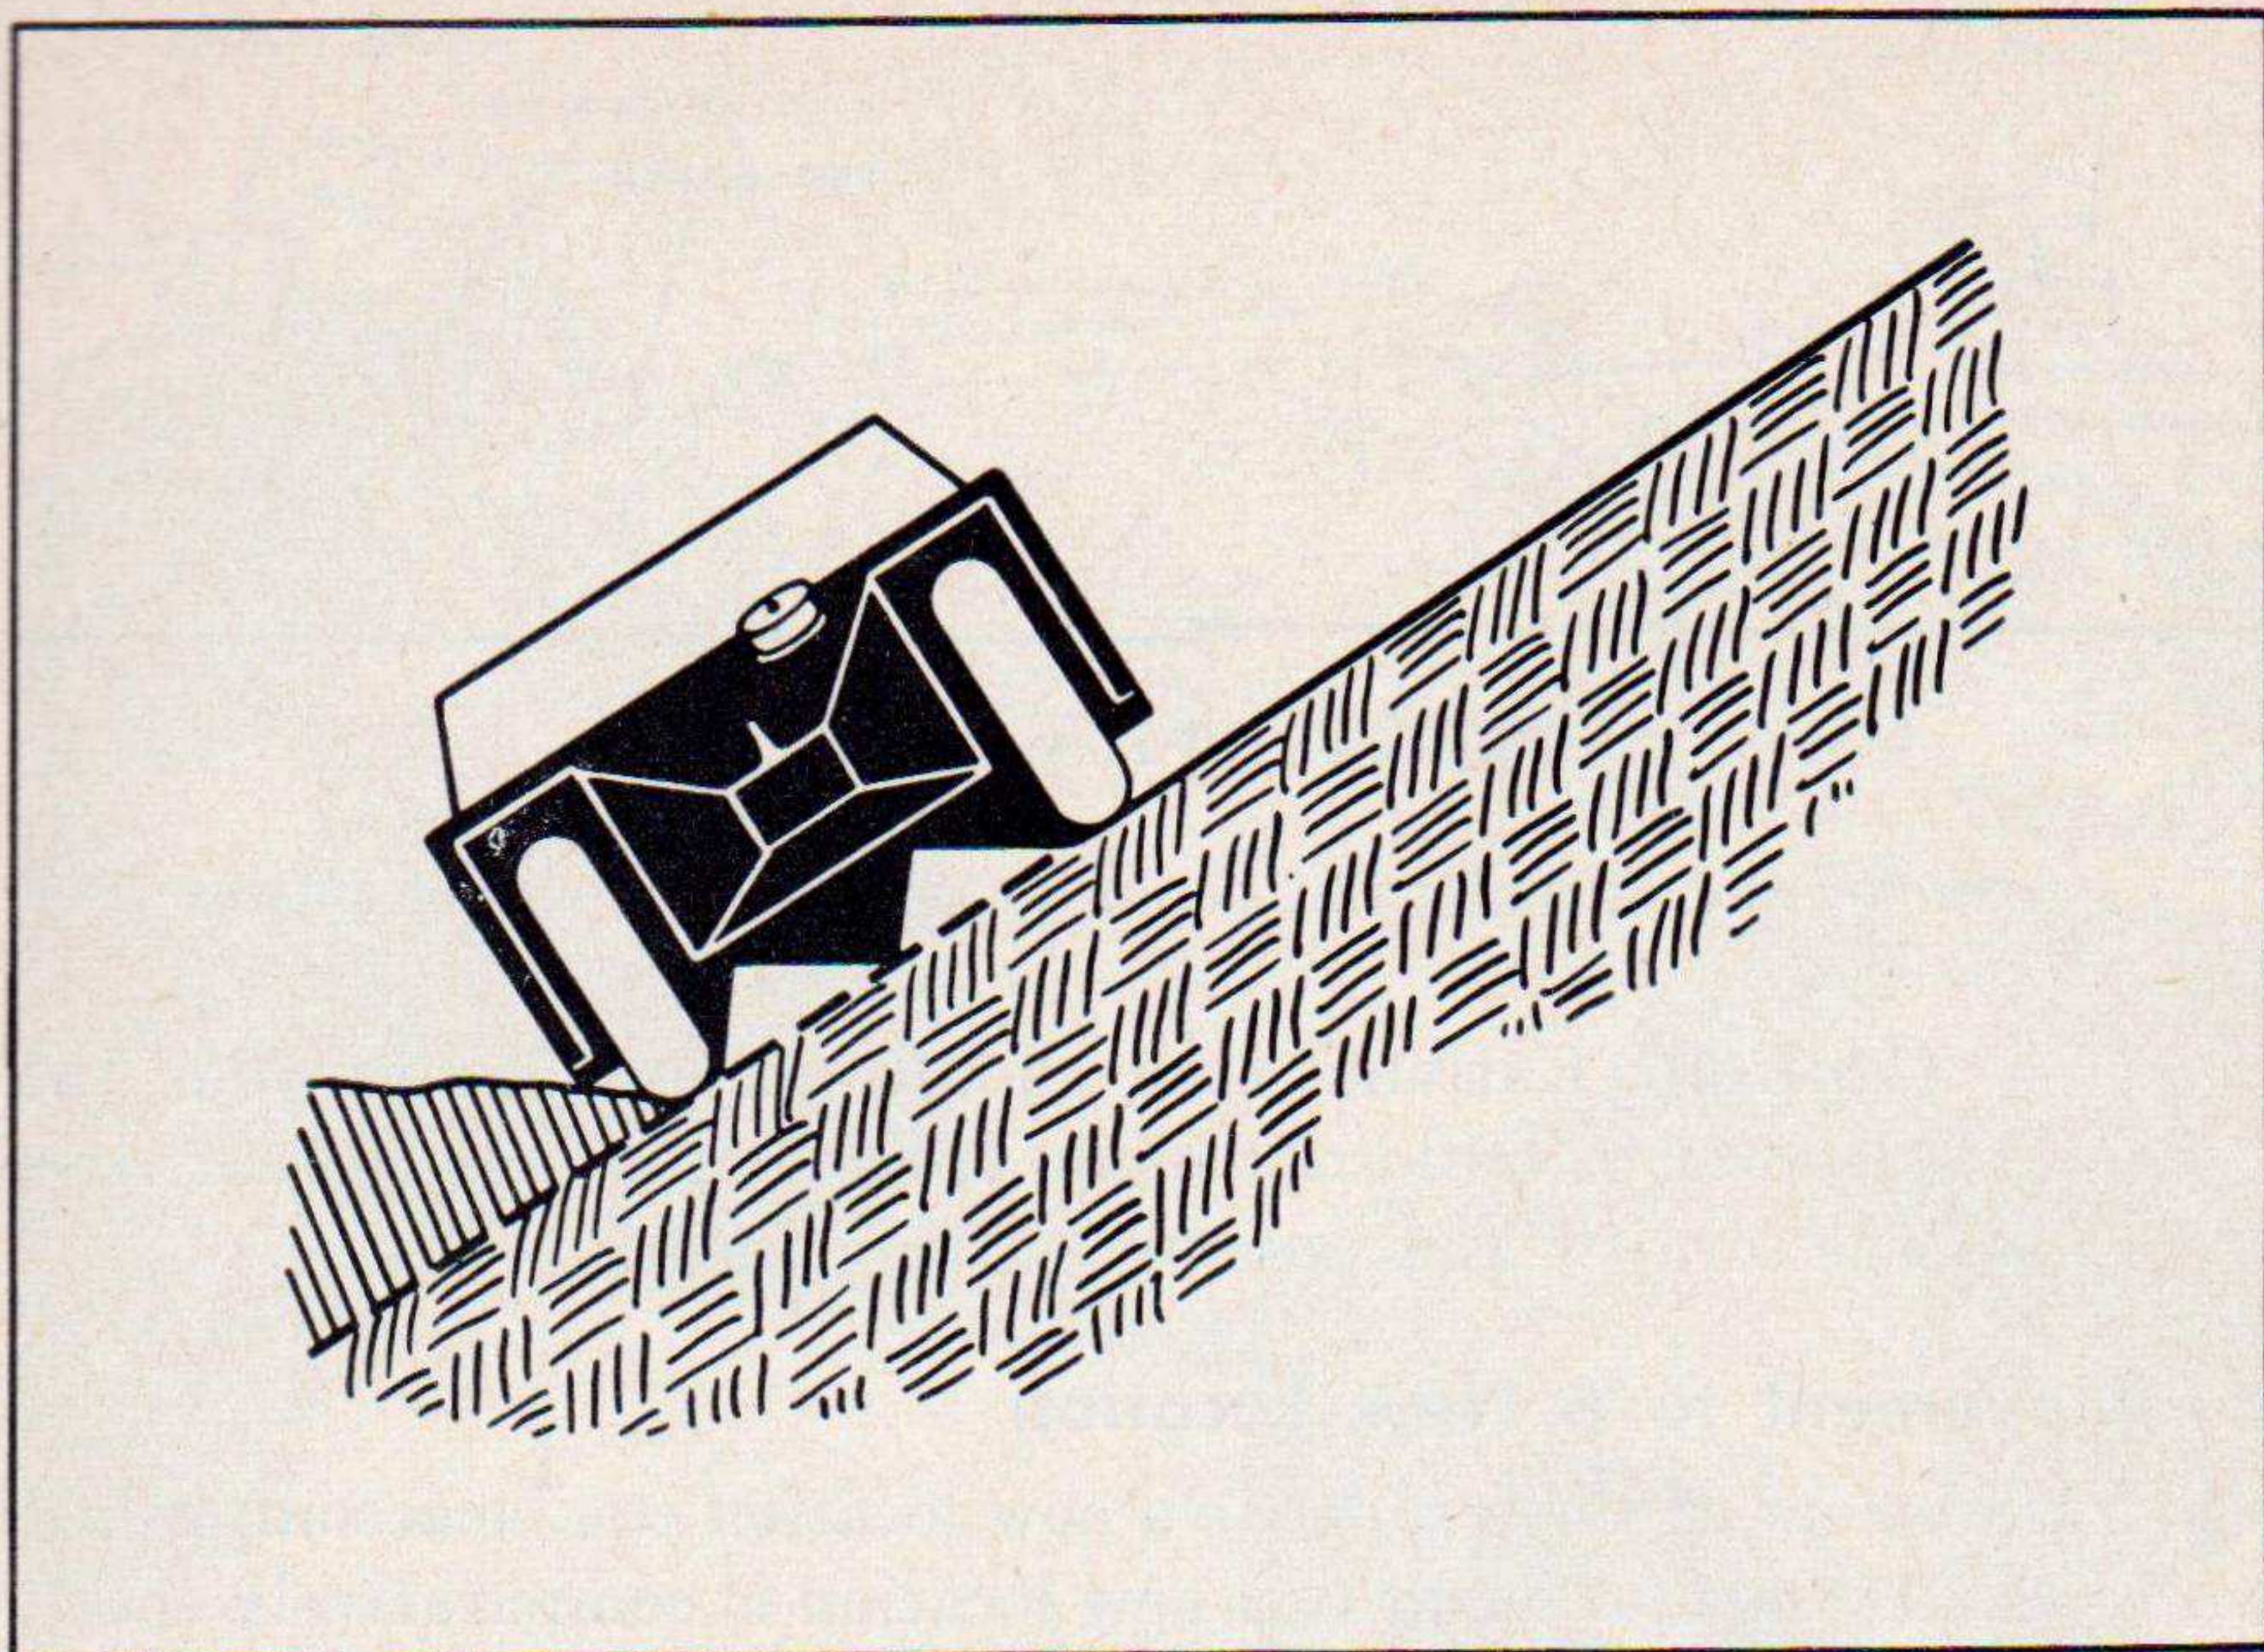

Figure 15. Finishing slopes.
m. Finishing Slopes (fig. 15). Slopes that are not too steep can be finished with a scraper without difficulty. For best results and greater safety, the slope should be finished as the work progresses. Each time that the scraper has cut the slope down far enough to cause the unfinished part of the slope to equal the approximate width of the scraper blade, it should then be used to finish the unfinished part by running one tractor track and one side of the scraper up onto the slope with the other track and wheels running along the bottom of the slope. To finish the slope pull the tilt floor forward within 8 inches of its extreme forward position. With the scraper set properly on the slope and tilt floor positioned the scraper can travel along